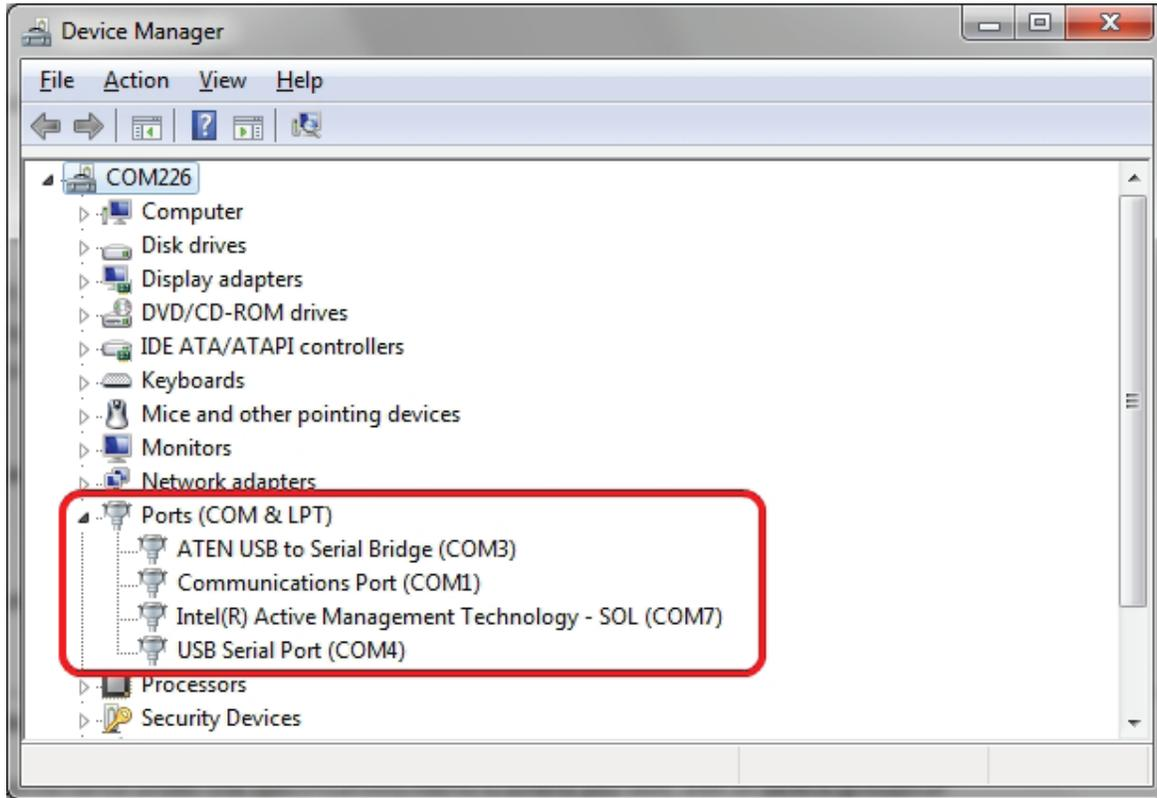

Figure 31
**Local Serial Port** – A local serial port may be an RS-232 port with a DB9-M connector on the PC or it may be a USB-to-Serial (RS-232 or RS-485) adapter. It can even be a COM port redirector locally installed and configured to use a remote serial server. In any of these cases, these are considered local serial ports and they will be presented to you in your Windows operating system under the Device Manager, see Figure 31. Note that even though eBob v5.3 directly supports remote serial servers, in the instance mentioned here, this remote serial device is considered a local serial port because it is available through a COM port redirector.